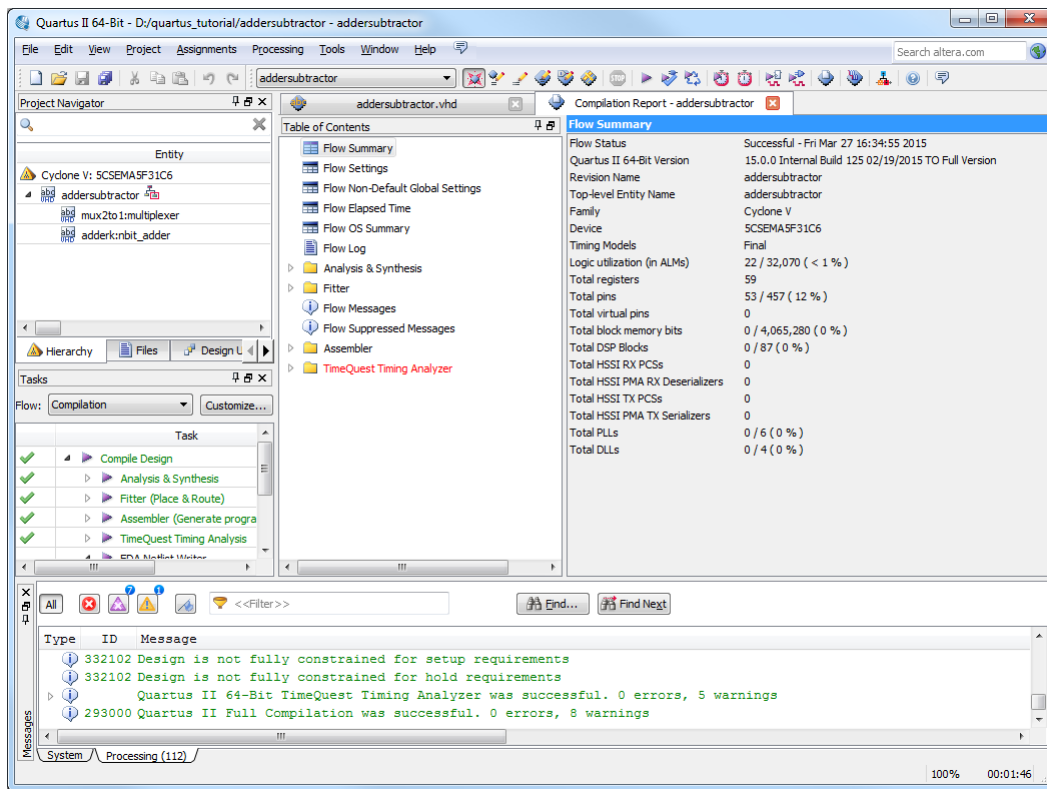

Figure 20: Display after a successful compilation.
1. Run the Compiler by selecting **Processing > Start Compilation**, or by using the toolbar icon . As the compilation moves through various stages, its progress is reported in the Tasks window on the left side. This window also provides a comprehensive interface to edit, start, and monitor different stages of the compilation. Successful (or unsuccessful) compilation is indicated in a pop-up box. Acknowledge it by clicking OK. This leads to the Quartus® II display in Figure 20, in which we have expanded the Entity hierarchy in the top left corner to show all entities in the *addersubtractor* design. In the message window, located at the bottom of the display, various messages are shown. In case of errors, there will be appropriate messages given.